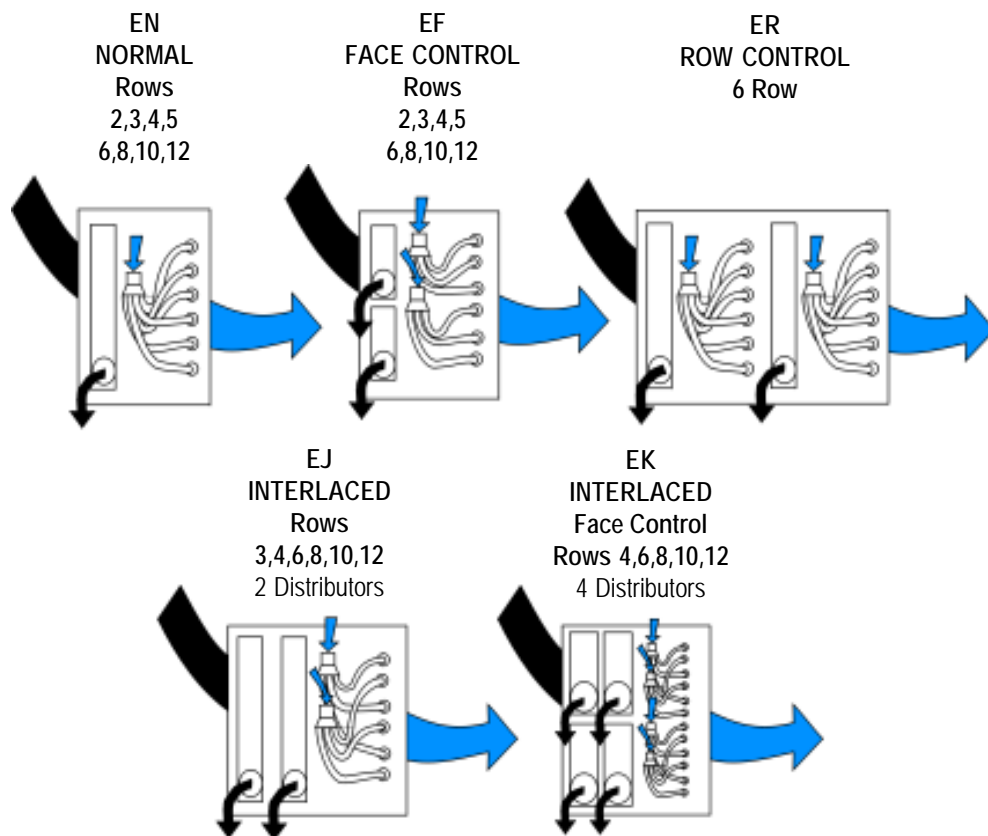

Figure 1 - Evaporator Coils
3. We offer a row control (ER) option for six row evaporators. These coils are split two rows and four rows which offer approximately a 50% capacity reduction.
6. See Figure 1 - Evaporator Coils.